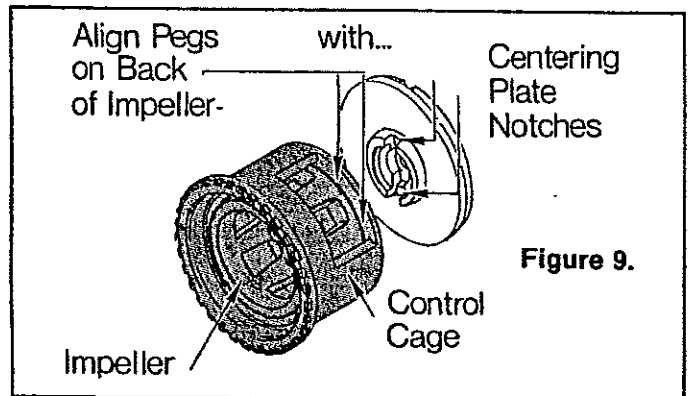

Figure 9.
- f. Insert impeller. Align pegs on back of impeller with notches in centering plate. (FIG. 9).